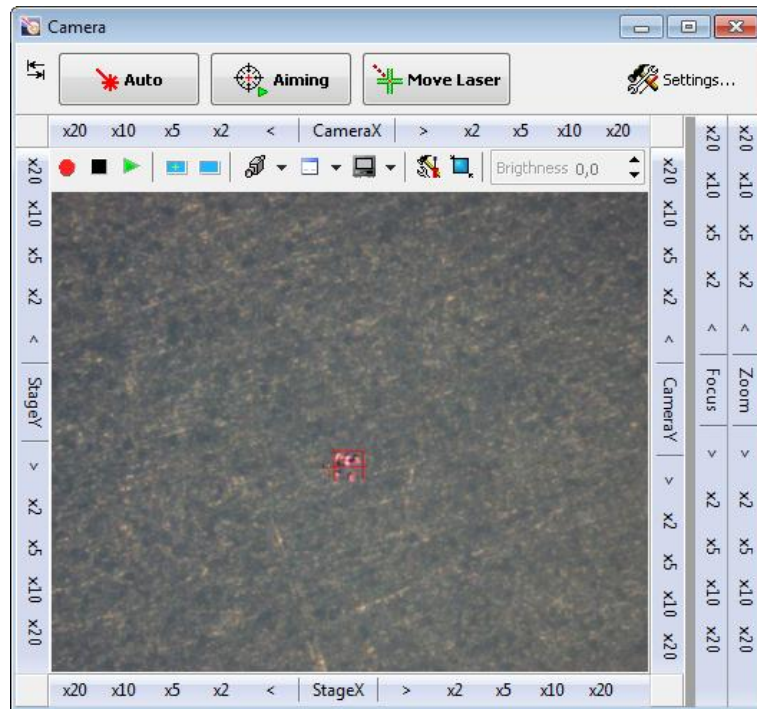

Fig. 7-13. Laser spot close to the center of the videoimage
11. Define position of the laser spot in the videoimage by clicking on a relevant location with the <Alt> key being pressed. This will display a cross-hair at the position of the laser spot, stepper motor of the laser carriage will start, and the laser will move to reposition the laser spot somewhere close to the center of the videoimage (Fig. 7-13).